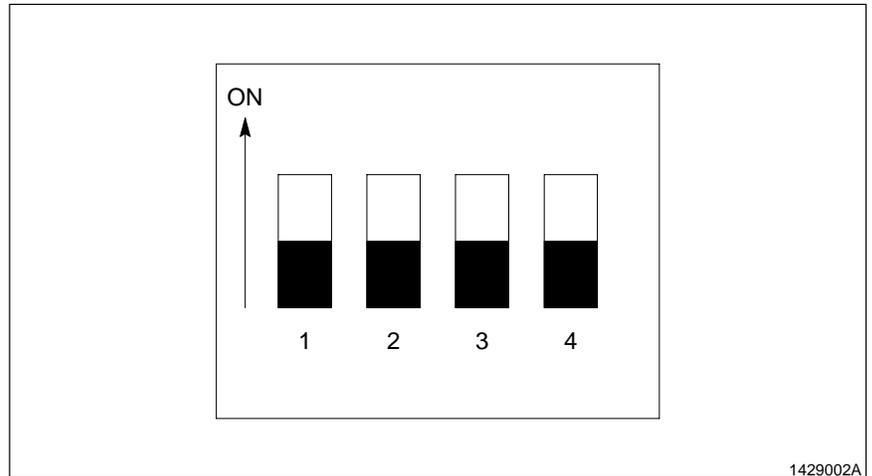

Fig. 2 Gun Head Dip Switch Settings
Gun Head Dip Switches (item 9)	See Figure 2. The gun head dip switches are factory-set to the OFF position.